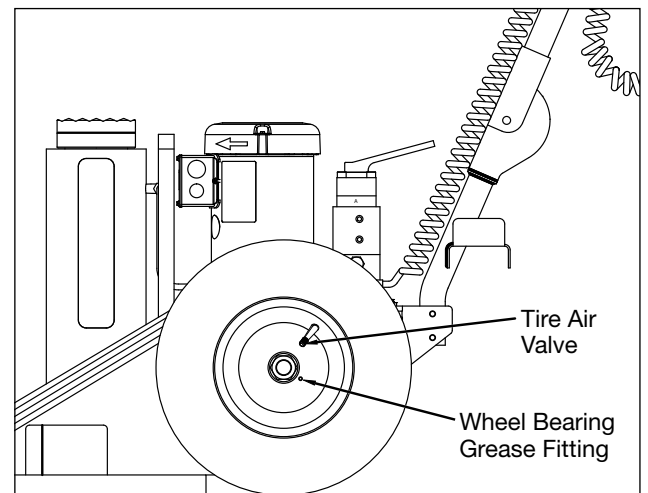

Figure 8, Wheel and Tire Maintenance
6.3 Wheels and Tires (See Figure 8)